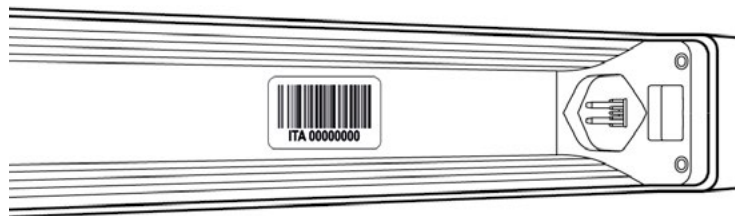

FIG. 15
- In order to make this guarantee effective, you must fill in the online form which can be accessed via QR CODE or by connecting directly to the website warranty.mbmbike.it no later than 15 days from the date of purchase of the bicycle. You will need the serial number and photo proof of purchase from the authorized reseller. The serial number is printed on the label located in the battery slide and on the battery itself (Figure 15);